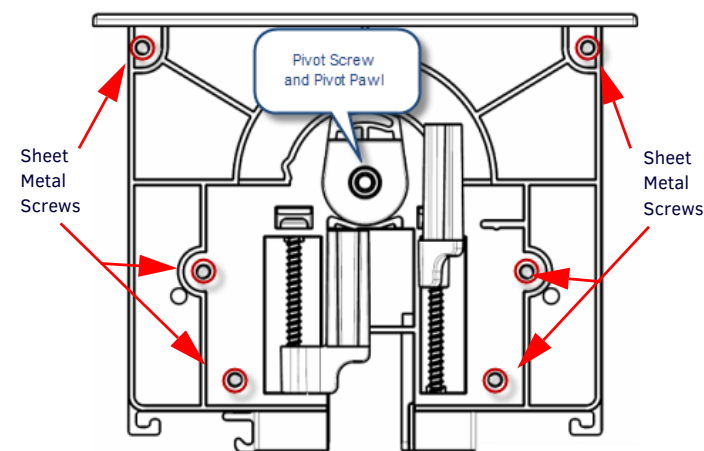

FIG. 6 HYDRAPORT BASE ASSEMBLY (SHOWN MOUNTED) - MOUNTING/PIVOT SCREW LOCATIONS
- Remove the (silver) pivot screw and pivot pawl assembly in the center of the End Cap (FIG. 6).
- Remove the six (black) sheet metal screws that secure the End Cap to the HydraPort assembly (locations highlighted in FIG. 6).
- Secure the End Cap with the six (black) sheet metal screws (removed in Step 2 - 2; see FIG. 6).
- Replace the (silver) pivot screw and pivot pawl assembly (removed in Step 2 - 1, see FIG. 6) in the center of the End Cap.